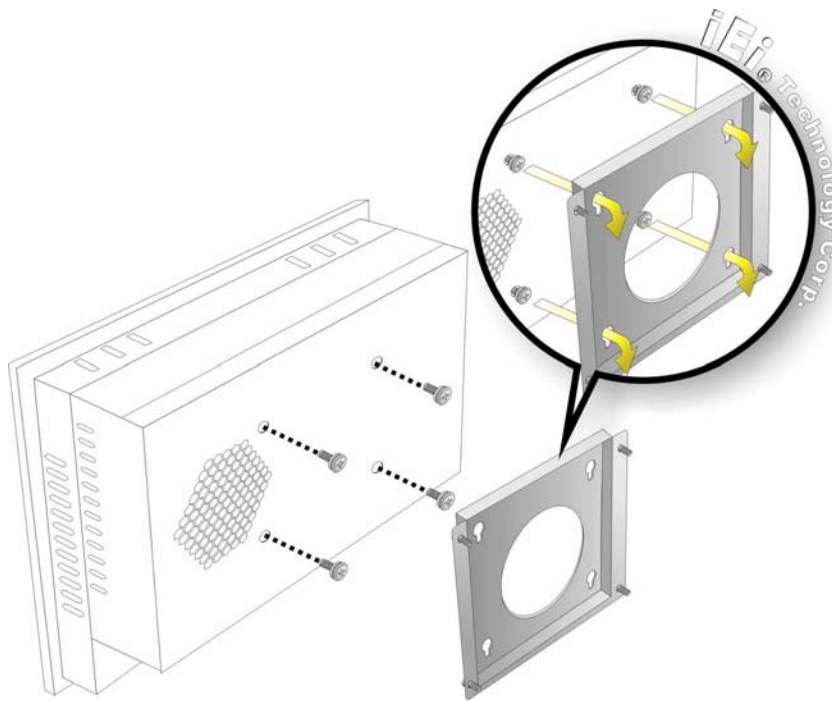

Figure 3-24: Mount the Chassis
- Step 6:** Insert the four monitor mounting screws provided in the wall mounting kit into the four screw holes on the rear panel of the monitor and tighten until the screw shank is secured against the rear panel (**Figure 3-24**).
Step 8: Carefully insert the screws through the holes and gently pull the monitor downwards until the monitor rests securely in the slotted holes (**Figure 3-24**). Ensure that all four of the mounting screws fit snugly into their respective slotted holes.